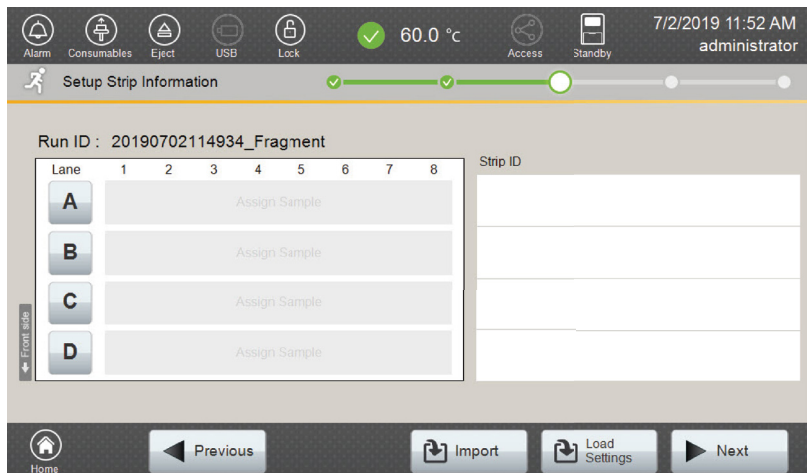
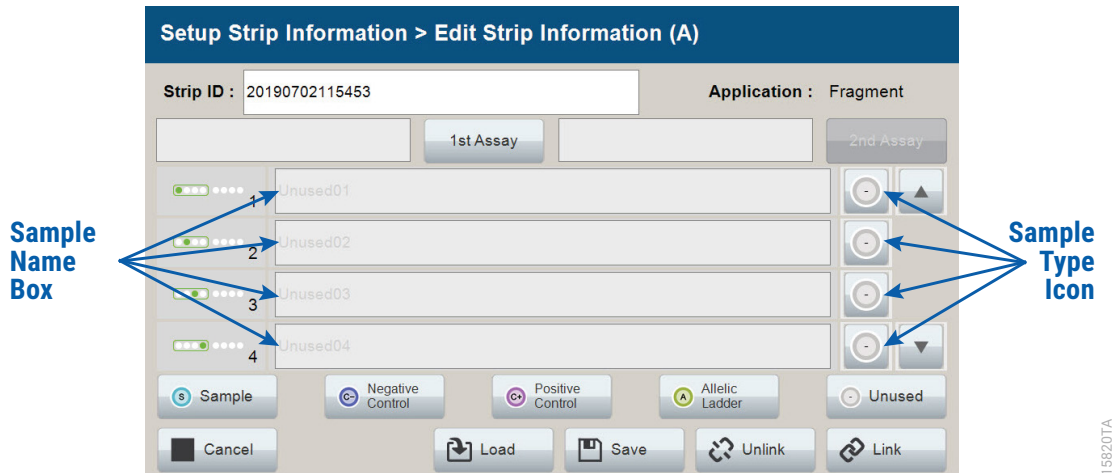
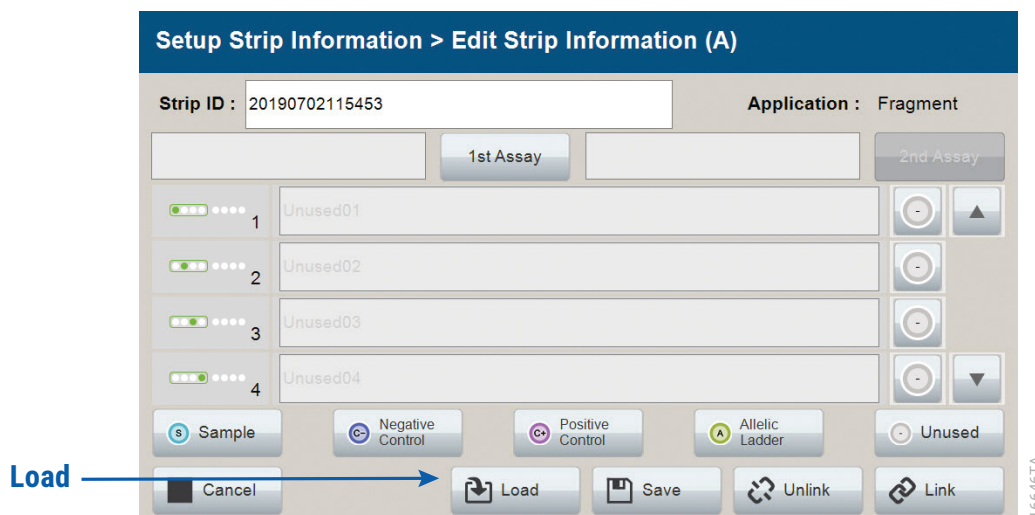
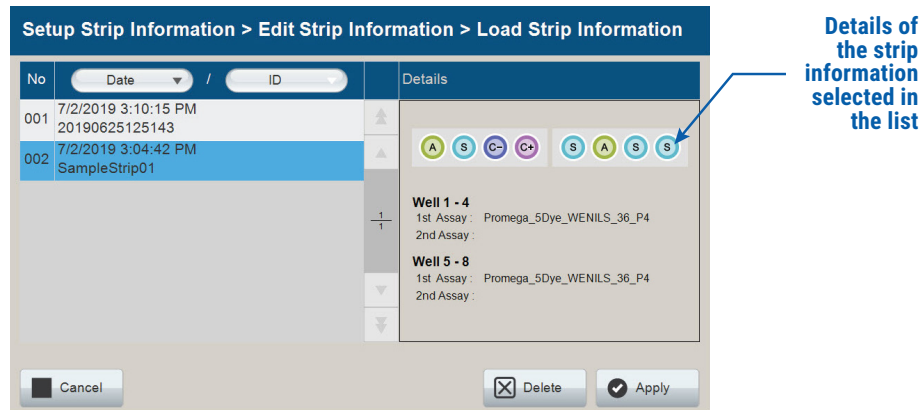

Figure 59. 'Setup Strip Information' screen.
Figure 60. 'Edit Strip Information' screen.
Figure 73. 'Edit Strip Information' screen: Loading a previously saved Strip ID.
Figure 74. 'Load Strip Information' screen.
5. Select **Next** to access the 'Setup Strip Information' screen (Figure 59).
- b. The 'Setup Strip Information' screen is divided into two sections: Sample information and Strip ID. You can enter sample names for samples in a strip by selecting the icon indicating the lane (A, B, C or D) that corresponds to your samples' strip position within the sample cartridge. This opens the 'Edit Strip Information' screen (Figure 60) for the selected lane.
After selecting the desired lane (A, B, C or D) on the 'Setup Strip Information' screen (Figure 59), the 'Edit Strip Information' screen (Figure 60) displays fields for defining the Strip ID, run assay, sample name and sample type for that lane. Each well in the strip is represented along the left side of the screen. The first injection set of the strip (wells 1–4) is displayed on the screen. You can use the arrows on the right side of the screen to scroll to the second injection set (wells 5–8). Strip information can be manually entered into this screen as described below or loaded/imported from saved records (see Sections 5.3.3–5.3.4).
The Spectrum Compact Control Software allows reuse of individual strip information saved previously (see Step 8 of Section 5.3.1) to assign to a specific lane (A, B, C or D) on the 'Edit Strip Information' screen (Figure 73).
1. After selecting the desired lane (A, B, C or D) on the 'Setup Strip Information' screen (Figure 59), select **Load** at the bottom of the 'Edit Strip Information' screen (Figure 73) to open the 'Load Strip Information' screen (Figure 74).
- c. It is also possible to use the 'Load Strip Information' screen (Figure 74) to delete strips that are no longer required. Select the strip to be deleted from the list on the left side of the window, and then select **Delete**. A warning window asking "Are you sure you want to delete the strip?" will appear. Selecting **Yes** deletes the strip and takes you back to the 'Load Strip Information' screen. Selecting **No** closes the window and takes you back to the 'Load Strip Information' screen without deleting the strip.